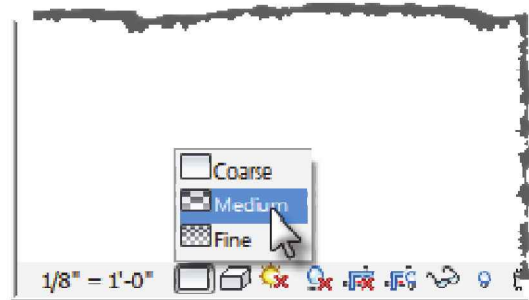

FIGURE 5-2.14 Detail Level; Set to Medium
28. Click on the **Detail Level** icon in the lower left corner of the drawing window (Figure 5-2.14).